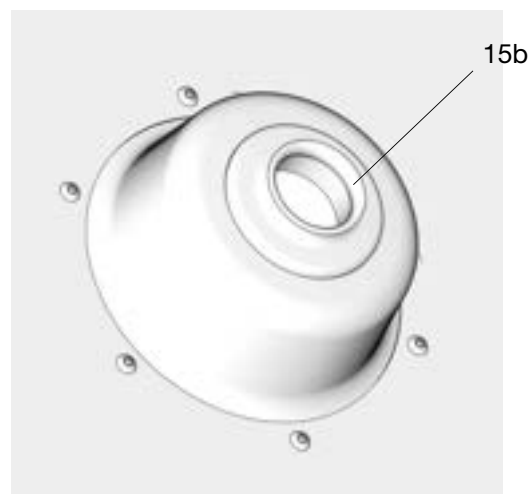

FIG. 26
5. Examine the follow plate to make sure that the rubber grommet (15b) is in place in the center of the plate (FIG. 26).